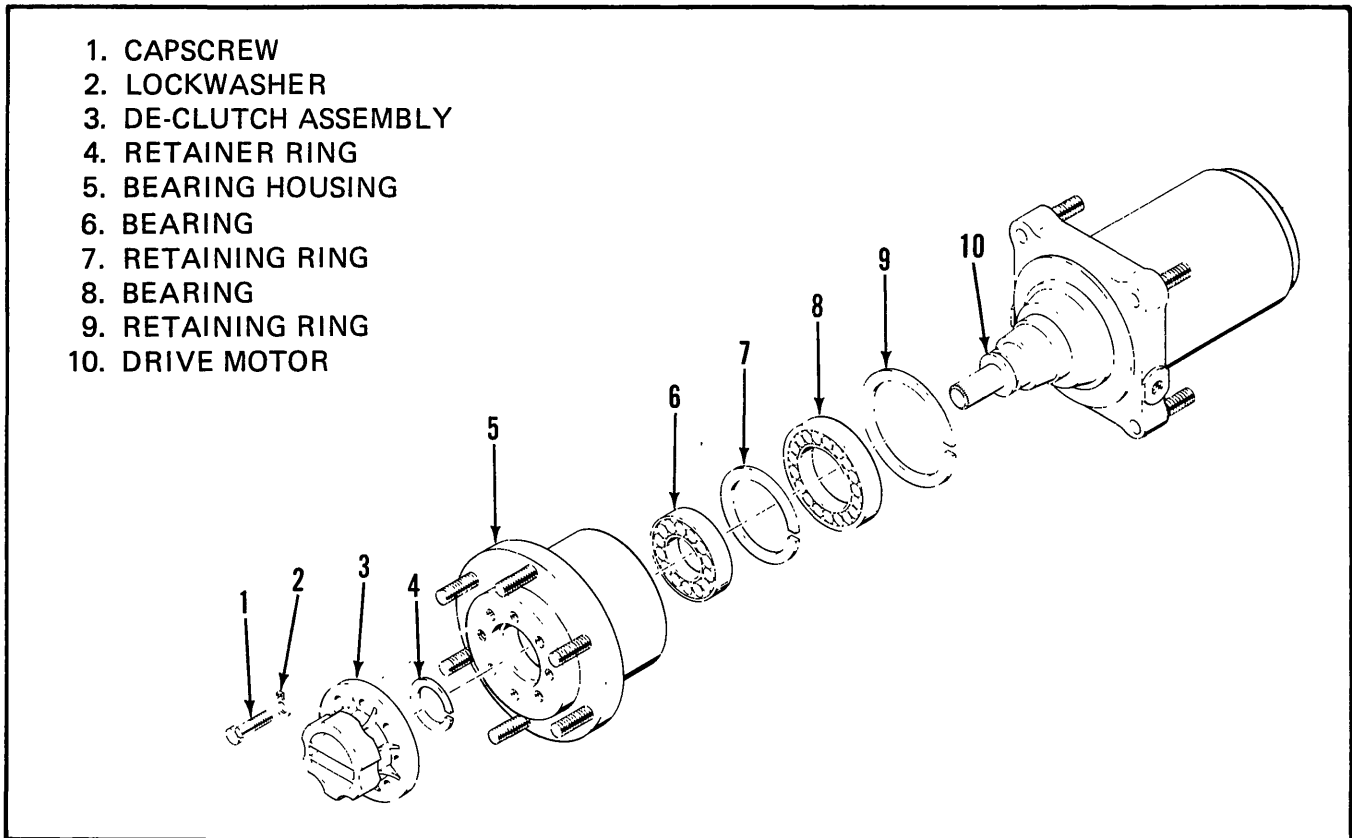

Figure 5-11. Free Wheeling Hub
- (1) Refer to Figure 5-11 and bend down lock tabs of the lockwashers (2) to allow removal of the capscrews (1) and the de-clutch assembly (3).
- (6) Wrap the splines of the coupling shaft (16) to prevent damage to the seals (22 and 24) then install the coupling shaft.
- (7) Install the drive link (15) aligning the hole in the drive link with the one in the coupling shaft.
- (8) Install the wear plate (14).
- (9) Install the rotor set (11, 12 and 13) with the counter bore of the rotor (12) facing down.
- (10) Install the manifold plate (10), manifold (9) and the commutator ring (6).
- (11) Install the commutator (8) and seal ring (7).
- (12) Install replacement seal rings (17 and 4) on the housing assembly (25) and end cover (2).
- (13) Apply a generous amount of petroleum jelly to both ends of the sleeve (5) and assemble onto housing (25). Be certain it is on straight.
- (14) Assemble the end cover (2) onto the sleeve (5) making certain it is straight.
- (15) Install the seven special capscrews (1) and tighten finger tight. Tighten the capscrews alternately to pull the end cover (2) and sleeve (5) into place. Torque the capscrews to between 45 and 55 lbs./ft.
- (16) Refer to Figure 5-11 and install the bearing (6) in the housing (5) and secure with retaining ring (7).
- (17) Install the bearing (8) in the housing (5) and secure with retaining ring (9).
- (18) Install the housing assembly on the drive motor (10) and secure with retaining ring (4).
- (19) Apply a bead of locktite around the circumference of the de-clutch mating flange. Align the splines of the de-clutch assembly with the drive motor then slide the assembly onto the drive motor shaft.
- (20) Secure the de-clutch assembly (3) to the bearing housing (5) with capscrews (1) and lock-washers (2). Torque the capscrews to 35 to 45 lb./ft. then bend the lock tabs to secure the capscrew heads.